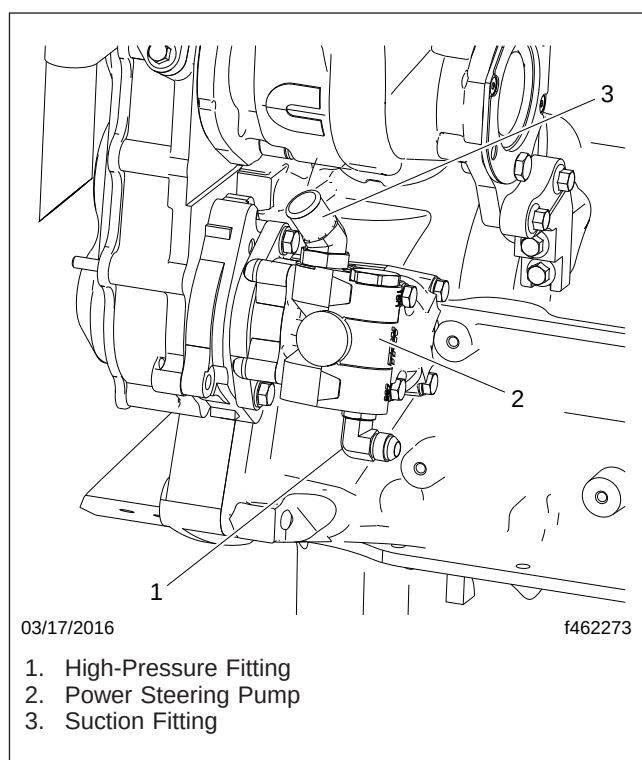
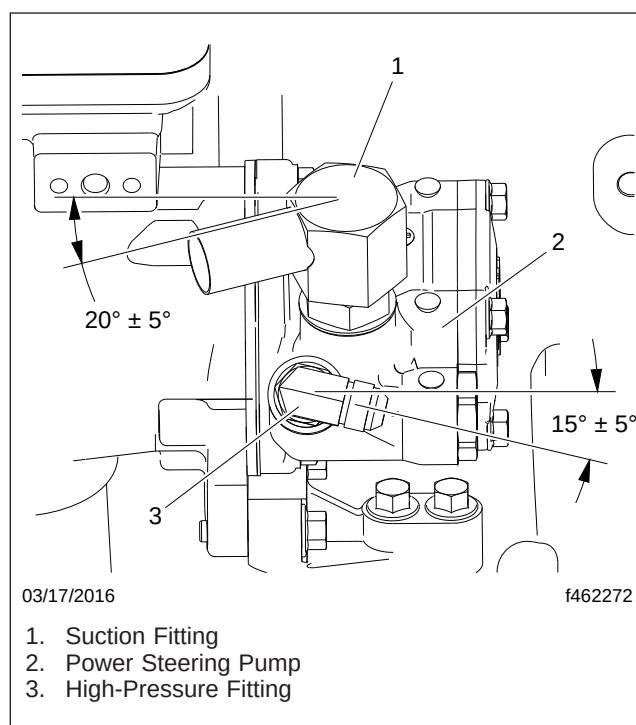

Fig. 1, Steering Pump, Cummins ISX12
Fig. 2, Steering Pump, Cummins ISX15
24. Using the mounting bolts, install the power steering pump. Tighten the mounting bolts 25 lbf-ft (34 N·m). See Fig. 1 and Fig. 2.